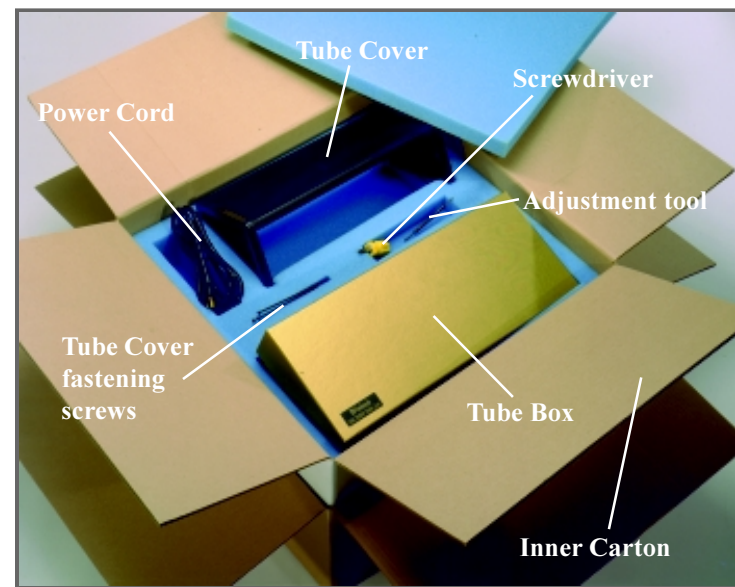

Figure 2
6. Lift off the individual layers of foam packing material from the MC2000. Refer to figure 2.
3. Open the inner carton. Refer to figure 2.